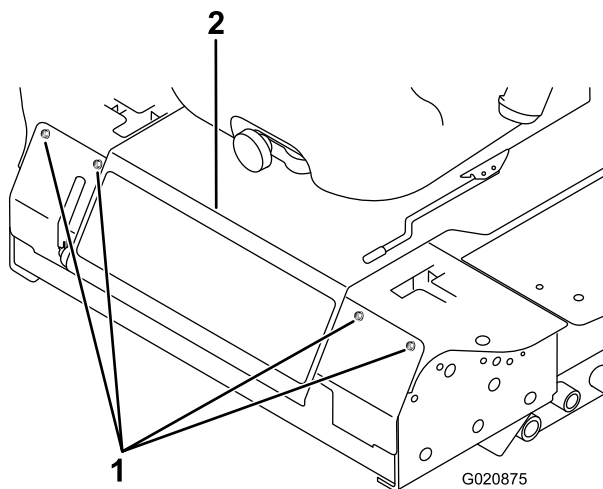

Figure 58
3. Remove the bolts securing the front panel and remove the panel (Figure 58).